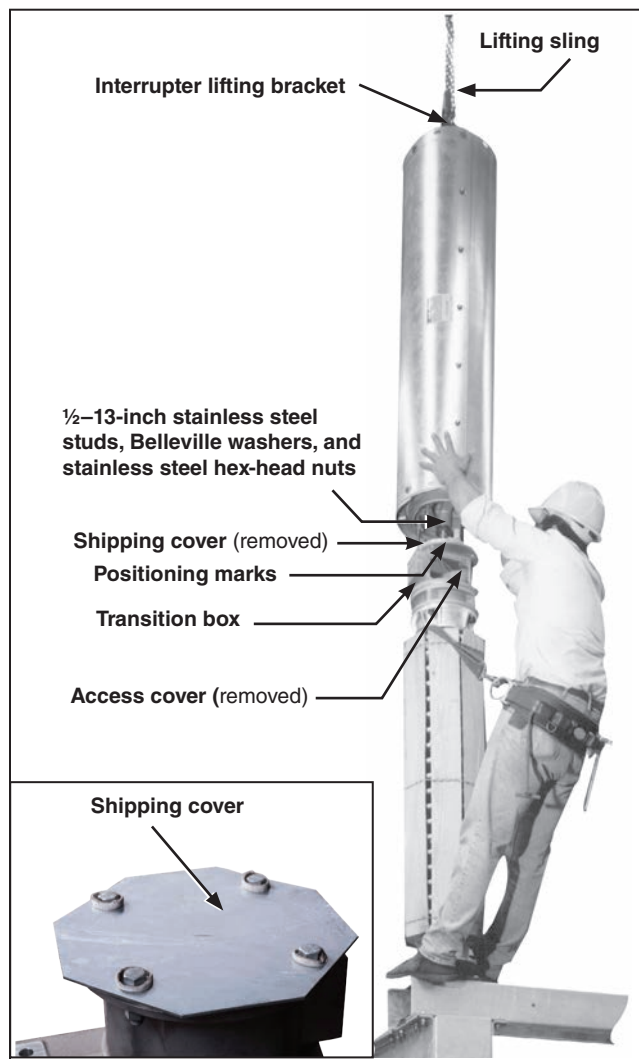

Figure 13. Attaching the interrupter to the insulating support column.
- STEP 1.** Attach a lifting sling to the lifting bracket on one of the interrupters. Remove and discard the clamps and associated $\frac{1}{2}$ -inch galvanized steel hardware that fasten the interrupter shipping bracket to the high-speed base and carefully lift the interrupter slightly higher than the top of the transition box of its associated insulating support column. See Figure 13.
- (a) Remove and discard the shipping cover on top of the transition box. See Figure 13 on page 18, inset.
- (c) Remove the four $\frac{5}{16}$ –18 \times $\frac{3}{4}$ -inch hex-head stainless steel cap screws used to attach the access cover to the side of the transition box. Remove the cover and place it and the hardware on a clean surface. See Figure 13 on page 18. Also remove the cloth bag containing the hardware that will be used to connect the interrupter coupling to the operating rod link in Step 4(g).